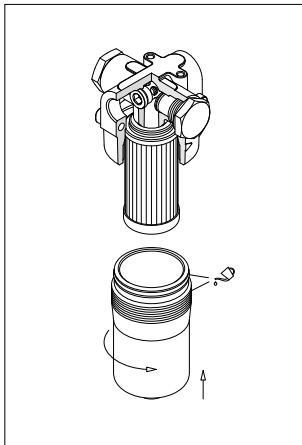

fig. 15
- (Fig. 15) Lubricate the thread and the O-ring of the bowl, then screw the bowl in referring to the tightening torque table in paragraph 3